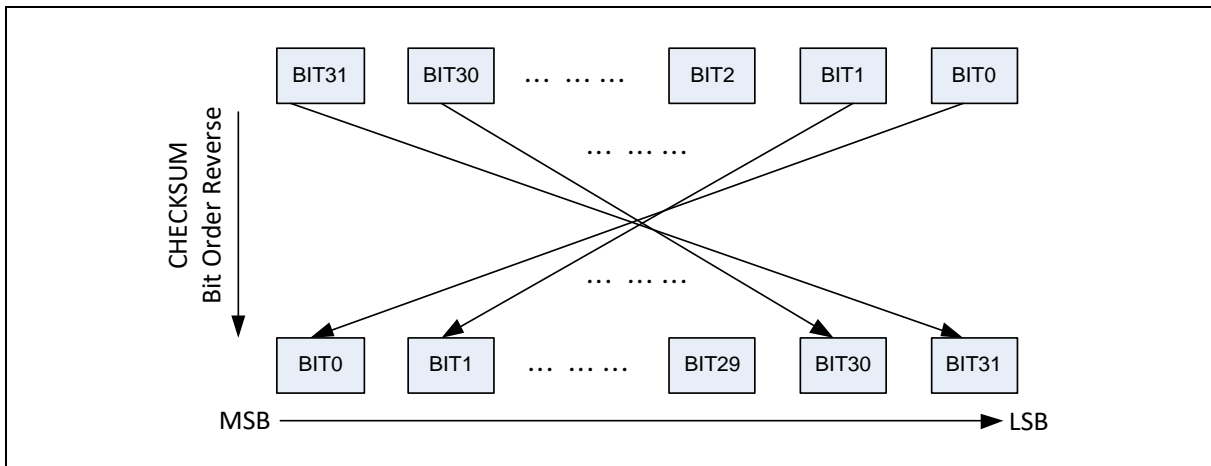

Figure 6.17-2 CHECKSUM Bit Order Reverse Functional Block
- 2) Configure bit order reverse for CRC checksum by setting CHKSREV (CRC_CTL[25] Checksum Bit Order Reverse). The functional block is also shown in Figure 6.17-2 CHECKSUM Bit Order Reverse Functional Block